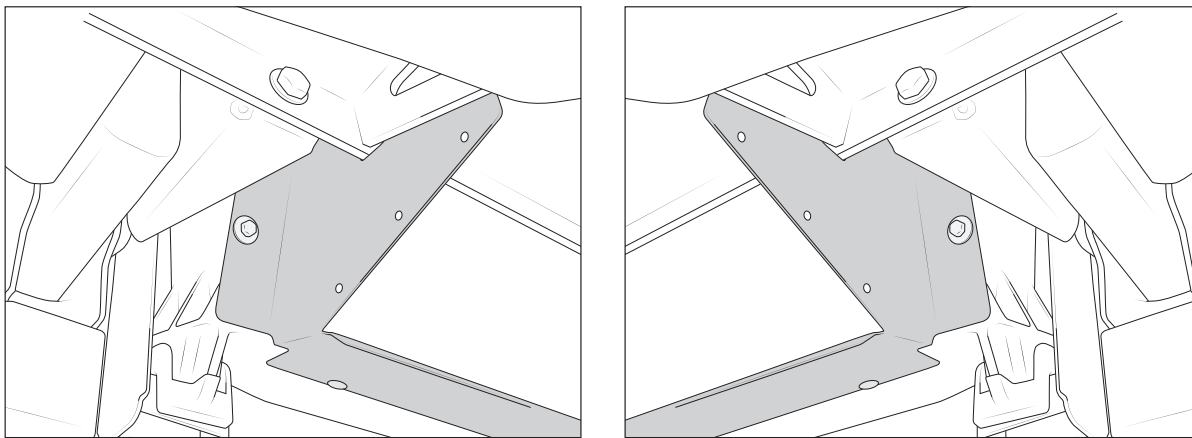

Figure 47
2. Attach AEV intercooler shroud to intercooler at the two lower factory locations using the factory hardware (fig. 47). Use the three factory push pins so secure the shroud along the bottom of the intercooler.